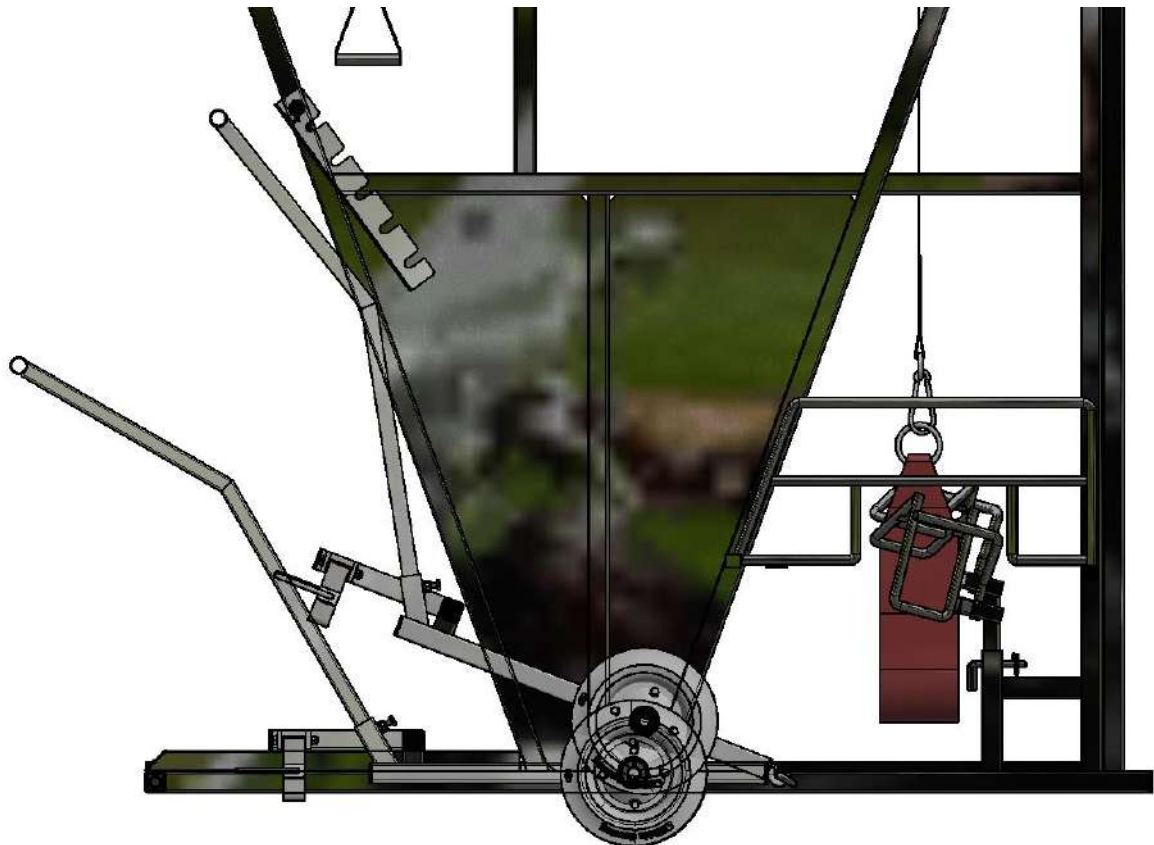
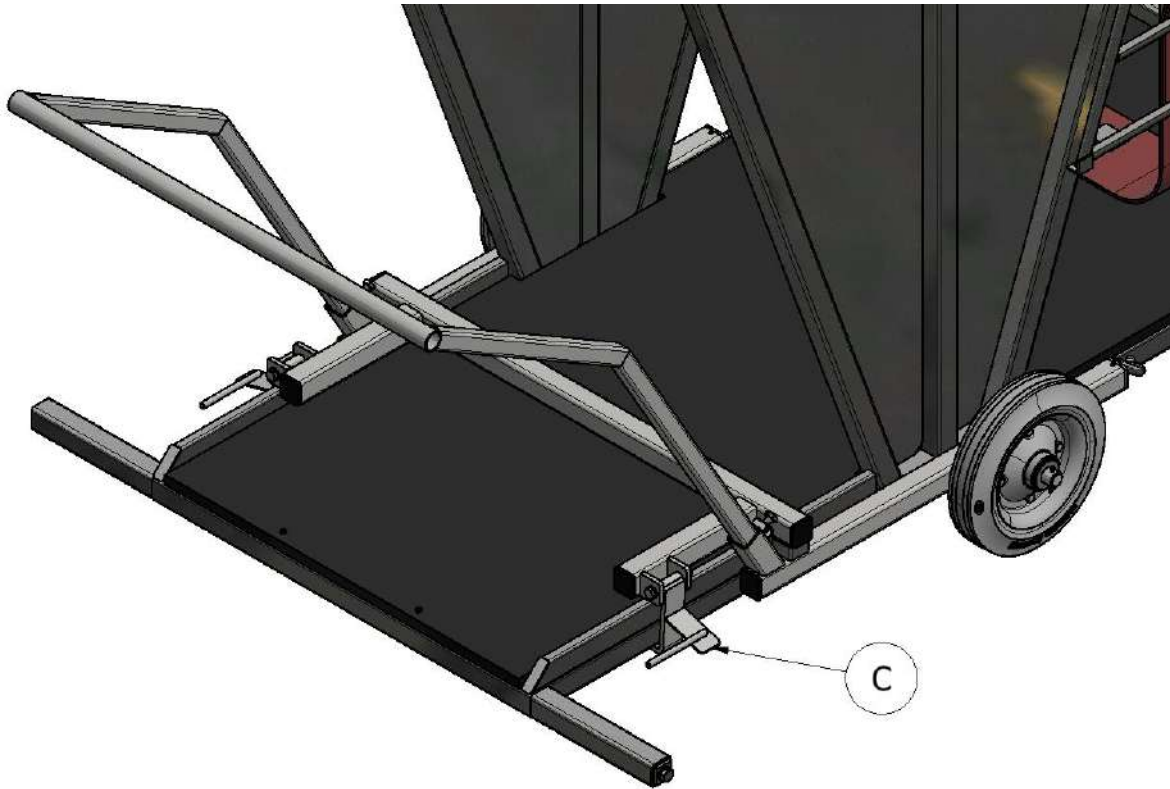

Figure 5.
Figure 6.
For installation of the wheel set lift the rear frame up using the hoist. Remove the extension cord. Install the wheel trolley as shown in Figure 5. Press the handle of the trolley downwards, lift the crush up and close the side supports (C), Figure 6. Use work gloves and safety footwear to avoid getting hurt.